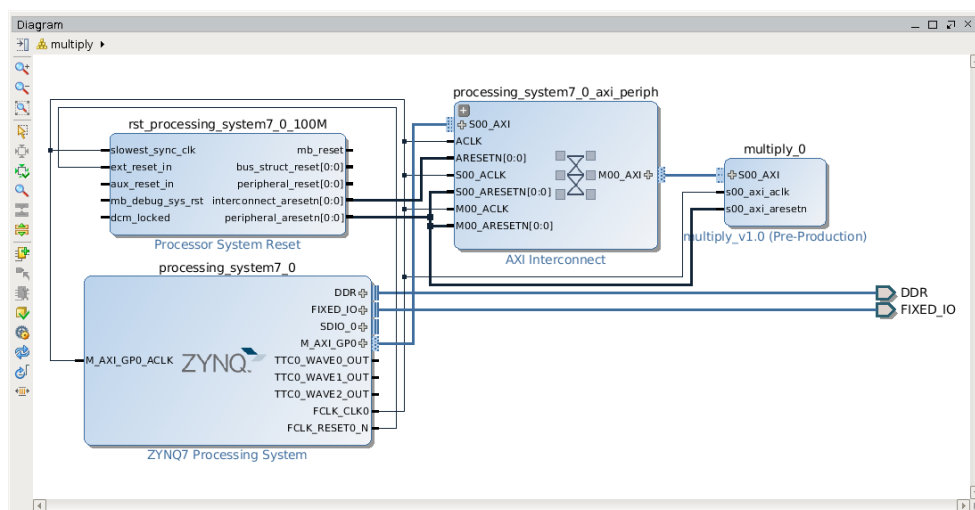

Figure 3: Base System Desing
- Run connection automation as shown in the previous lab. Now the base system should look like the one as in Figure 3.